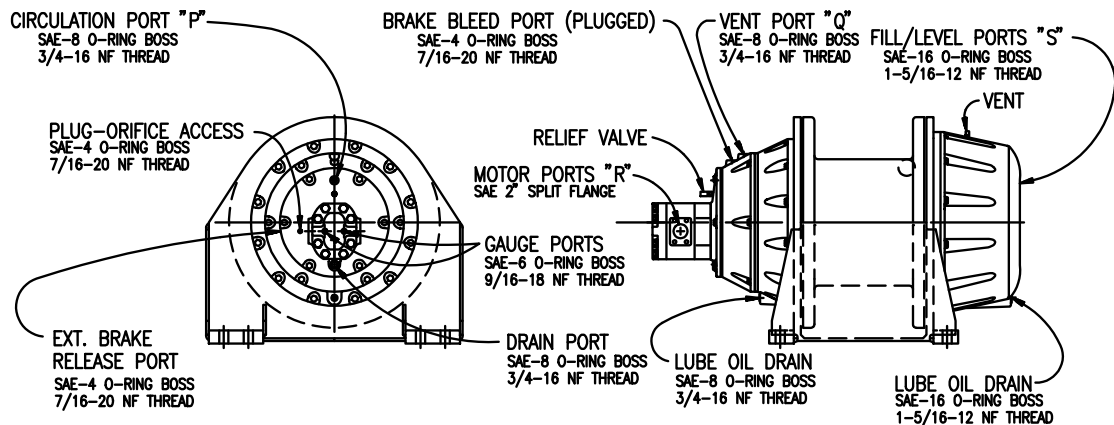

Figure 1
The winch gear cavities are filled via the filler plug (fill port "S" in Figure 1). Fill with gear oil until it reaches the filler/level plug. **DO NOT OVERFILL** as this may cause the gear reductions to overheat. Use 85W-140 gear oils containing EP additives, which increase the oil film load carrying capacity of the oil.
The winch gear cavity is supplied with a **VENT** (shown on the right end of Figure 1). It is necessary that the oil sump be vented at the highest possible point above the oil level. If the winch base is mounted non-horizontally, it may be necessary to remove the gear reduction opposite the motor and rotate it to position the vent at the highest point possible.
For storage up to *two years indoors* or up to *six months outdoors* the following must be done (refer to Figure 1 for locations of plugs and vents):
The line from port "Q" should have a hose with an inner diameter of at least $\frac{3}{4}$ " (19mm) (see Figure 1).
The oil should be circulated through the brake housing via the circulation port marked "P" and out through the vent port marked "Q" (refer to Figure 1).
- Check that oil circulation flow from port "P" is between 2 and 3 gpm and that the pressure at port "P" (refer to Figure 1) is less than 10 psi (0.7 atm).